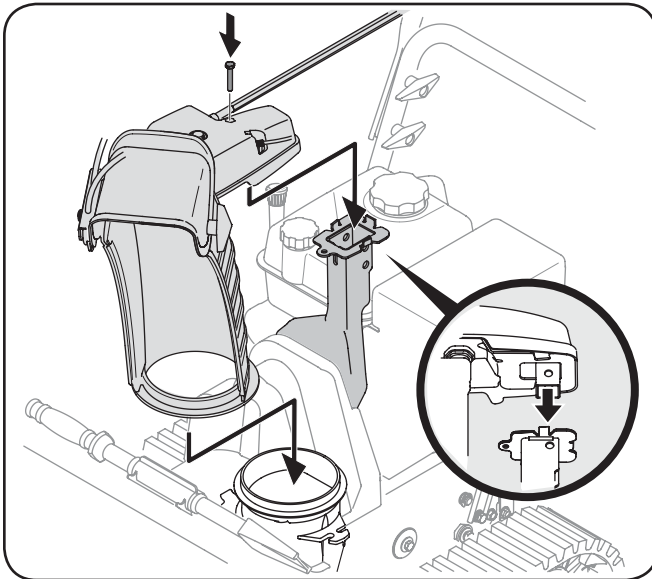

Figure 3-4
- Place chute onto chute base and ensure hex rod is positioned under the handle panel. Install hex bolt previously removed but do not secure with wind nut at this time. See Fig. 3-4.